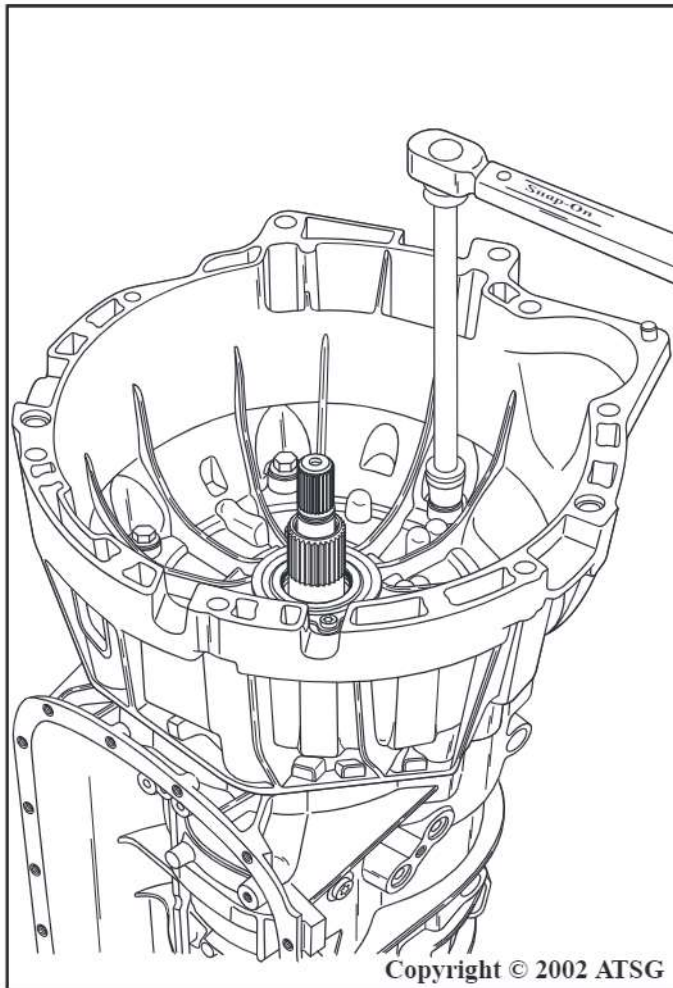

Figure 194
31. Torque the seven bolts to 22 Nm (16 ft.lb.), as shown in Figure 194.